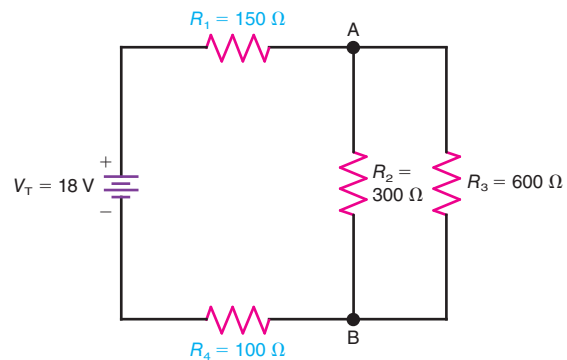

Figure 7-19
7.4 In Fig. 7-19, identify which components are in series and which ones are in parallel.
- 7.5 In Fig. 7-19,
- 7.6 In Fig. 7-19, solve for the following: I_1 , V_1 , V_2 , V_3 , I_2 , I_3 , I_4 , V_4 , P_1 , P_2 , P_3 , P_4 , and P_T .